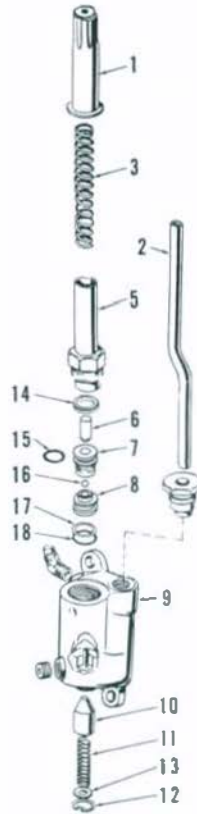
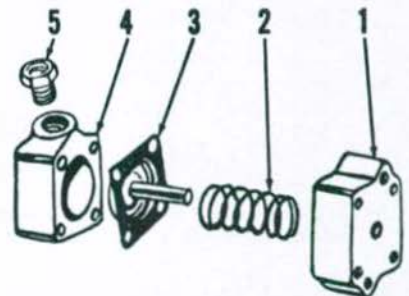

Fig. 196—Exploded view of pressure control valve.
Fig. 197—Exploded view of pressure control diaphragm.
**210. PRESSURE CONTROL VALVE AND DIAPHRAGM.** The pressure control valve shown exploded in Fig. 196 serves the dual purpose of providing pressure relief for the main hydraulic pump during normal operation and providing weight transfer for added traction when using some types of pulled or mounted implements.
The servo piston (7) and matched sleeve (8) connect the control diaphragm assembly (Fig. 197) to control passage of pressure valve. When servo piston is against stop pin in valve body (9—Fig. 196) the diaphragm passage is open to reservoir. As pressure builds up in lift cylinder circuit and piston (7) moves upward against spring pressure,
Relief valve (10) is preset at a slightly higher pressure than diaphragm return spring (2—Fig. 197). The valve provides a safety relief passage if diaphragm plunger malfunctions or system is improperly adjusted.
To disassemble the pressure control valve, refer to Fig. 196 and proceed as follows: Withdraw adjusting tube (1) and spring (3), then unscrew and remove pilot (5). Using needlenose pliers, carefully withdraw guide (7). Remove piston seat (8) using a hooked wire. Relief valve (10) and spring (11) can be removed after removing snap ring (12).